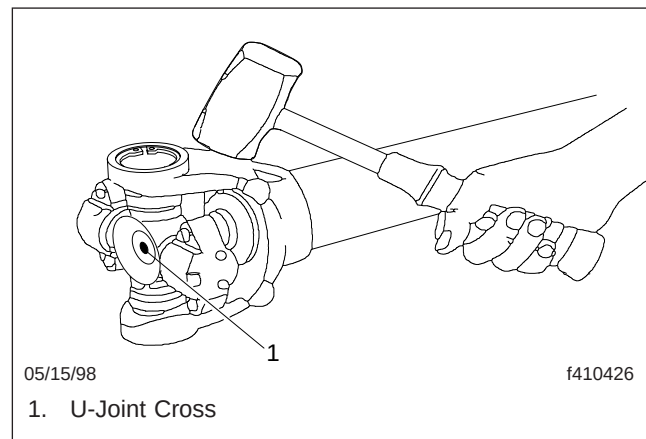

Fig. 15, Striking the Yoke Ear
- 4.7 If the universal joint does not move freely, strike the yoke ear with a brass or copper hammer. See Fig. 15.